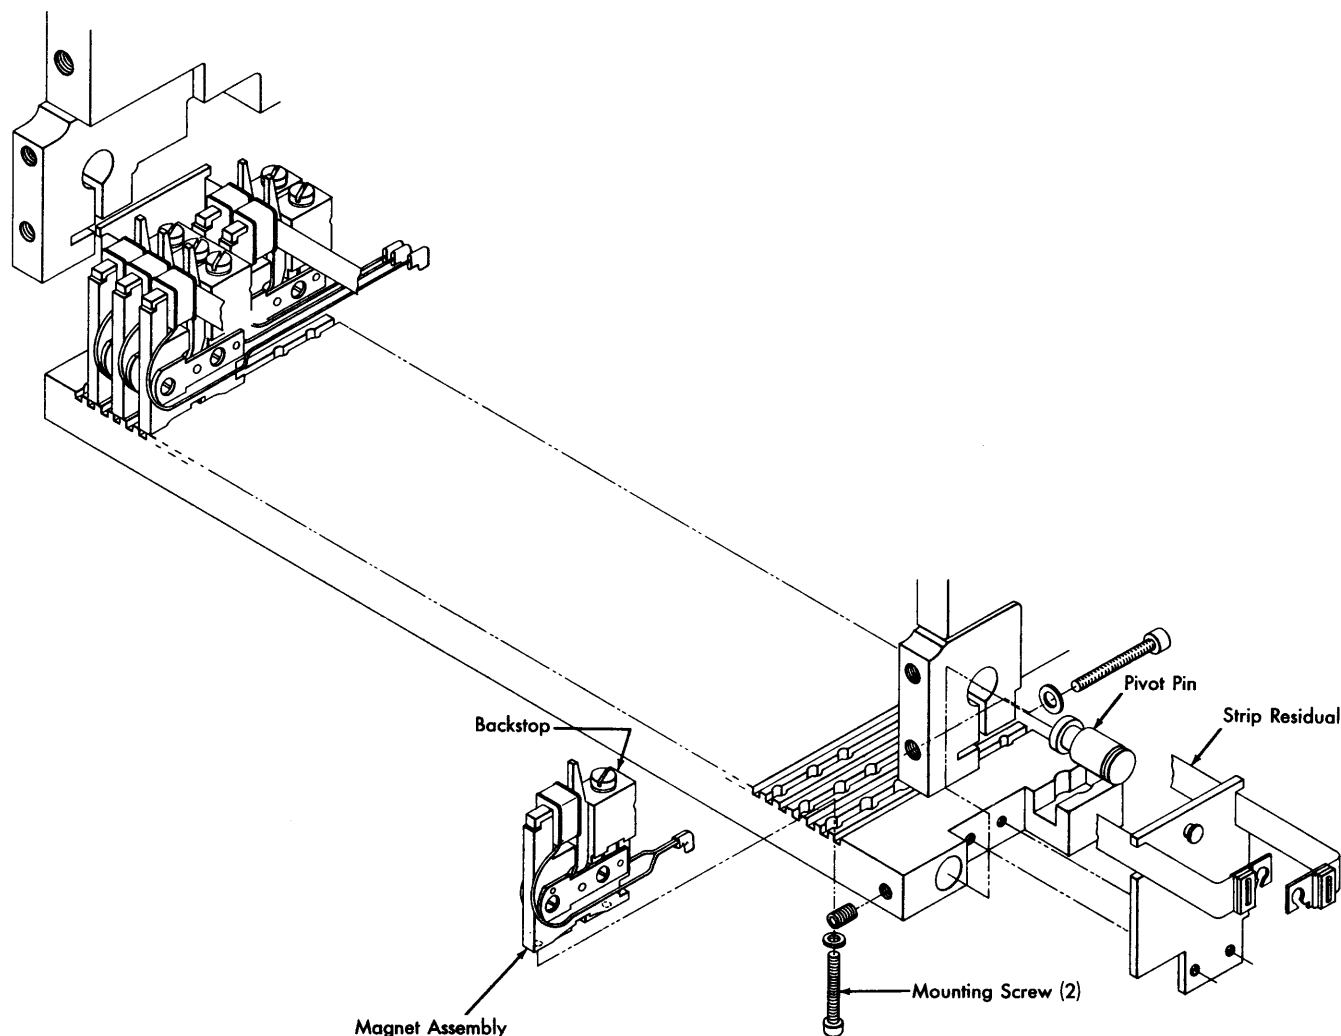

Figure 79. Magnet Assembly Mounting Plate (Lower)
5. Remove two screws holding the assembly to the plate (Figure 79).
3. Route the magnet leads around the assembly as shown in Figure 79.
4. Remove the upper or lower hammer unit cover to expose the appropriate hammer magnet assembly mounting screws (Figure 79).
5. Remove the backstop assembly (Figure 79) from the magnet assembly. (The magnet assembly does not need to be removed from the mounting plate.)
8. Route the coil leads around the assembly as shown in Figure 79.
2. Remove the appropriate magnet-mounting plate screws (Figure 79), and pivot the plate to gain access to the magnet assembly.